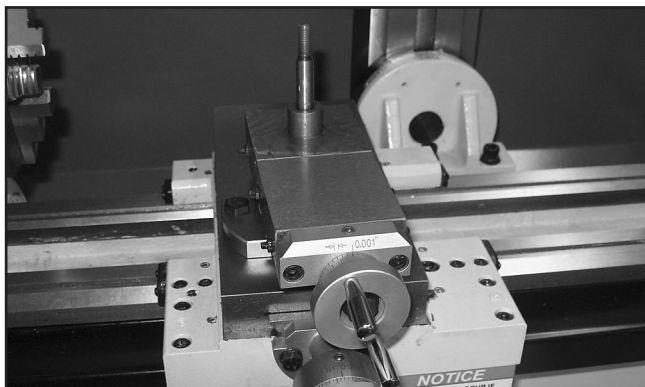

Figure 3. Tool post removed from compound slide.
1. Remove the tool post from the top of the compound slide, as shown in **Figure 3**.